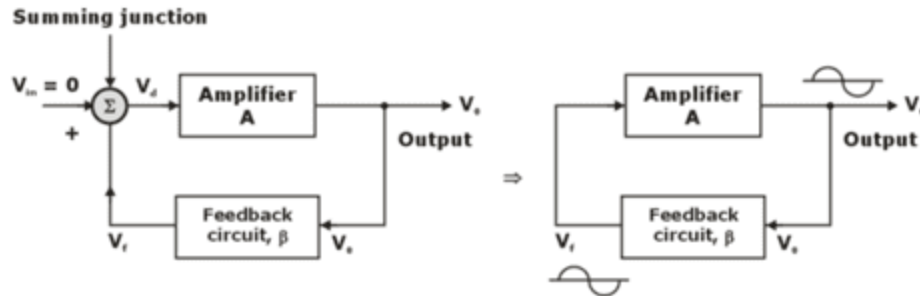

Figure 1: Oscillator Block Diagram
- The basic structure of a sinusoidal oscillator consists of an amplifier and a frequency selective network connected in a positive feedback loop as shown in figure 1.
In the block diagram of figure 1,
In figure 1, if the amplifier causes a phase shift of 180° , the feedback circuit must provide an additional phase shift of 180° so that the total phase shift around the loop is 360° . The type of waveform generated by an oscillator depends on the components in the circuit hence may be sinusoidal, square or triangular. In addition, the frequency of oscillation is determined by the components in the feedback circuit.